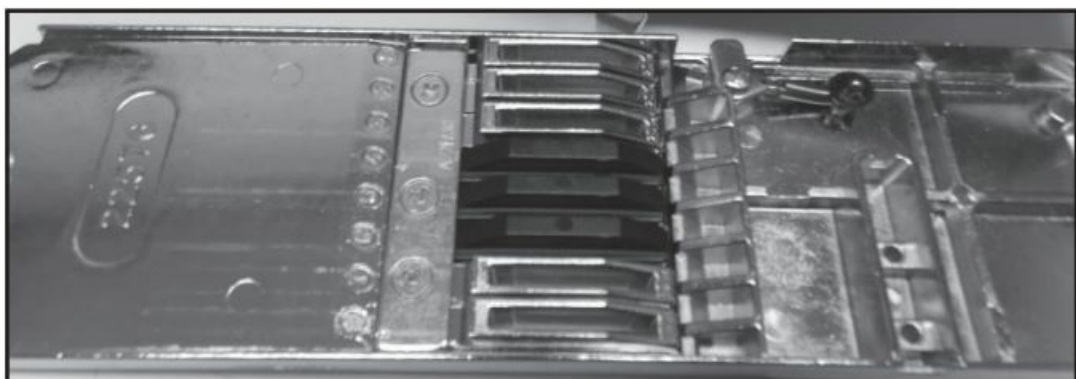

FIGURE 9
9. Reinstall the active insert retainer. Illustrated slide set for \$1.25. See Figure 9..